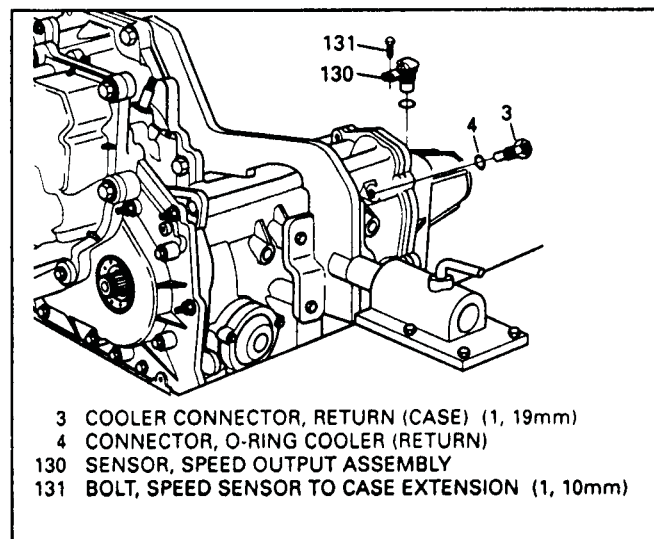

Figure 40
2. Install transaxle and fixture into the base fixture on bench, using suitable lifting device (See Figure 40)
5. Rotate transaxle in fixture to position shown in Figure 40, after drainage.
6. Remove one retaining bolt from speed sensor located in the case extension (See Figure 40).
8. Remove the cooler return line fitting using a 19mm wrench, from the case as shown in Figure 40.